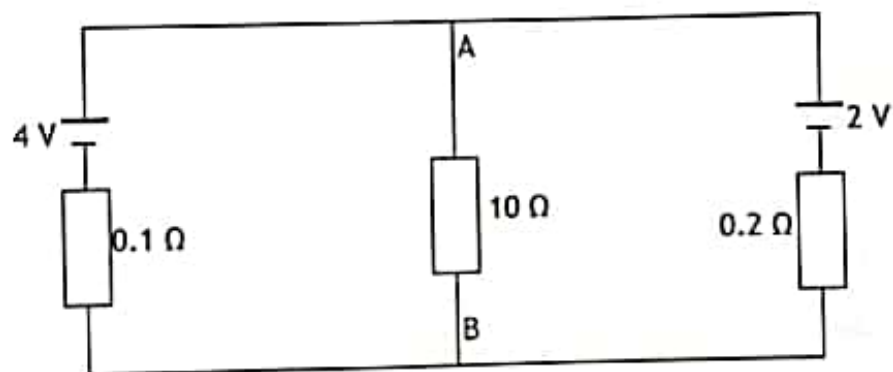

Fig. Q1
1. (a) For the circuit shown in Fig Q1, determine EACH of the following:
- (i) the current through the $10\ \Omega$ resistor; (8)
- (ii) the p.d. across each resistor. (4)
- (b) The $10\ \Omega$ resistor is now disconnected from the circuit. Calculate the voltage V_{AB} . (4)